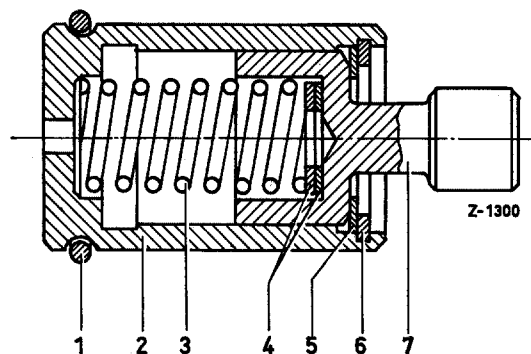

Figure 07-1/3
If the adjustment travel value is too high or too low, the position of the stop pin (7) in the spring capsule housing (2) should be varied by placing washers (5) between stop pin shoulder and lock ring (6) (see Figure 07-1/1).
**Caution!** This variation also varies the pre-tension in the spring capsule. This should be compensated for by placing washers (4) between additional spring (3) and stop pin bottom in order to obtain the specified pre-tension of 50-90 grams.